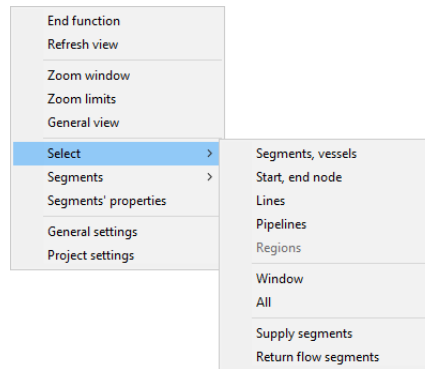

Figure 2.5.5: Context menu - Select
- The segments, which shall be assigned with a certain pipe dimension, are selected using **Edit > Select** or  or the context menu (fig. 2.5.5), which can be opened by rightclicking in the graphical input window.